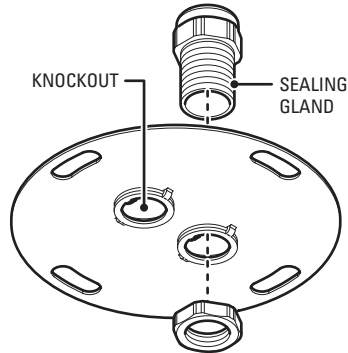

Figure 1. Conduit Plate Knockouts and Sealing Glands
4. Install conduit fittings (not supplied) or sealing glands (supplied) in the conduit plate (refer to Figure 1).
3. Remove one or both knockouts from the conduit plate (supplied with the EWM) (refer to Figure 1 on page 3).
4. Install conduit fittings (not supplied) or sealing glands (supplied with the EWM) in the conduit plate (refer to Figure 1 on page 3).
5. Remove one or both knockouts from the conduit plate (supplied with the EWM) (refer to Figure 1 on page 3).
6. Install conduit fittings or sealing glands (supplied with the EWM) in the conduit plate (refer to Figure 1 on page 3).